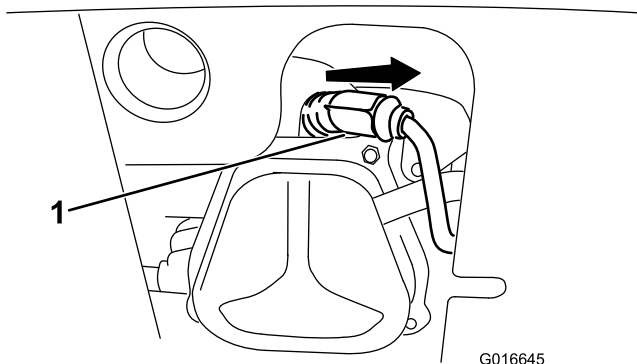

Figure 48
1. Remove the boot (Figure 48).